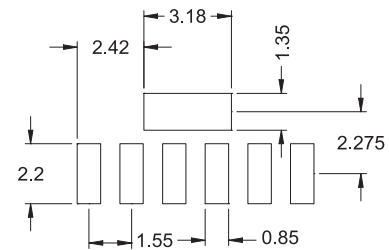

Figure 50. Alternate ZHX1810 Transceiver
- ZHX1810 (Figure 49 on page 46 and Figure 50 on page 47)
To achieve the lowest possible costs and lead times, Zilog® maintains multiple assembly facilities. Figure 49 and Figure 50 on page 47 display the mechanical drawings for the ZHX1810 transceivers. These devices, which display the minor mechanical differences, are functionally equivalent in every way and meet all Zilog and IrDA standards and specifications. All ZHX1810 devices use the identical solder pad layout. Although reels are never mixed, Zilog reserves the right to ship from either facility in order to meet the delivery requirements. When designing an IrDA subsystem, you must allow mechanical clearance for all versions of the IrDA transceiver.